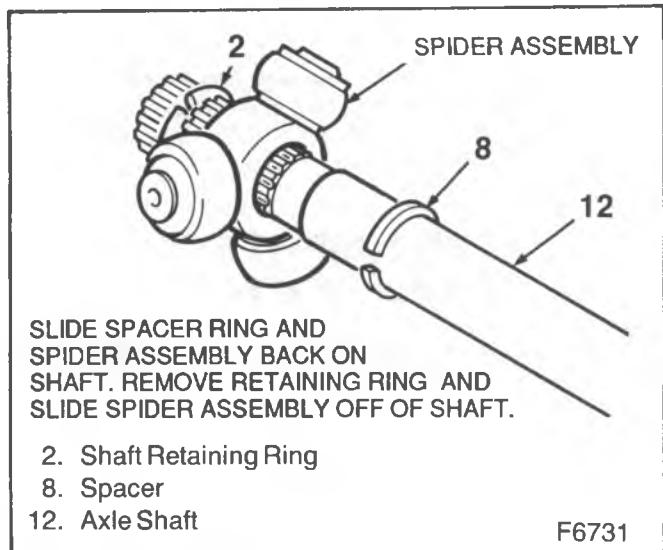

Figure 51—Removing Spider Assembly
2. Small seal-retaining clamp (11) from the axle shaft (12) with a side cutter and discard.
- Separate seal (10) from the tri-pot housing (1) at the large diameter and slide the seal away from the joint along the axle shaft (12).
3. Tri-pot housing (1) from the spider (3) and shaft (12).
- Spread the spacer ring (8) with J 8059 and slide the spacer ring and the tri-pot spider (3) back on the axle shaft (12) as shown (figure 51).
4. Shaft retaining ring (2) from the groove on the axle shaft (12) and slide the spider assembly off the shaft.